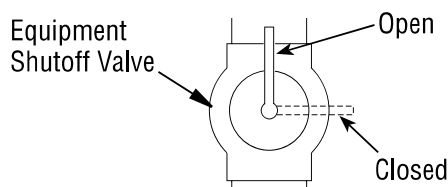

Figure 15 - Equipment Shutoff Valve
1. Close equipment shutoff valve (see **Figure 15, page 14**).